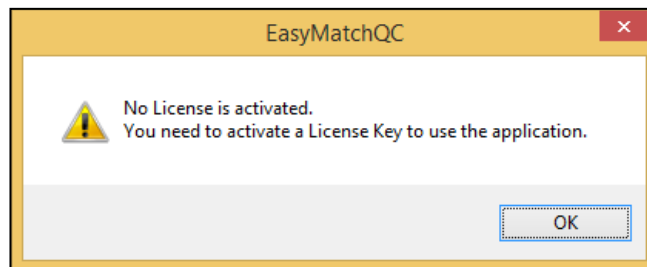

Figure 4. No License Warning
2. A warning message to activate the license will be displayed as shown in Figure 4.